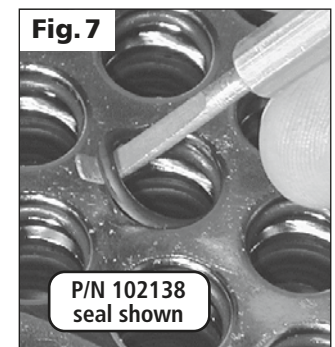

**Fig. 5**
8. Remove the baffle assembly. Note its orientation in the shell. See **Fig. 5**. It will have to go back into the shell in the same orientation.
The short leg of the longitudinal baffle bars must be centered behind the alignment block on the inside of the shell. See page 4, Fig. 5